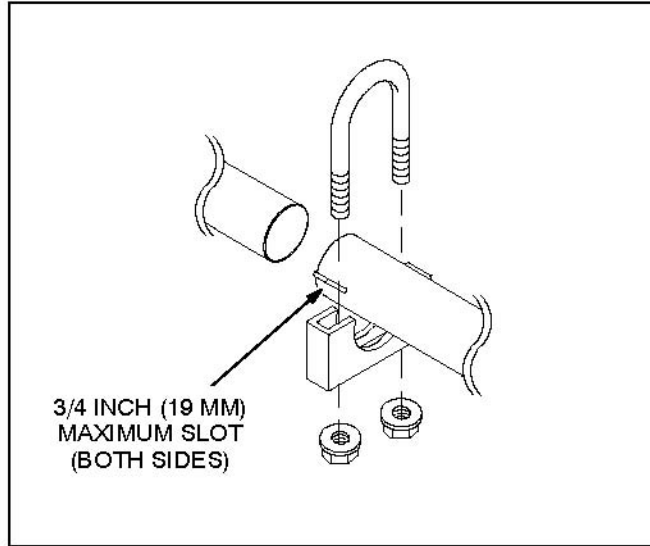

FIGURE 7. EXHAUST TAILPIPE CONNECTIONS
2. Use U-bolt muffler clamps to connect sections of tail pipe. It is recommended that the overlapping pipe be slotted as shown in Figure 7.